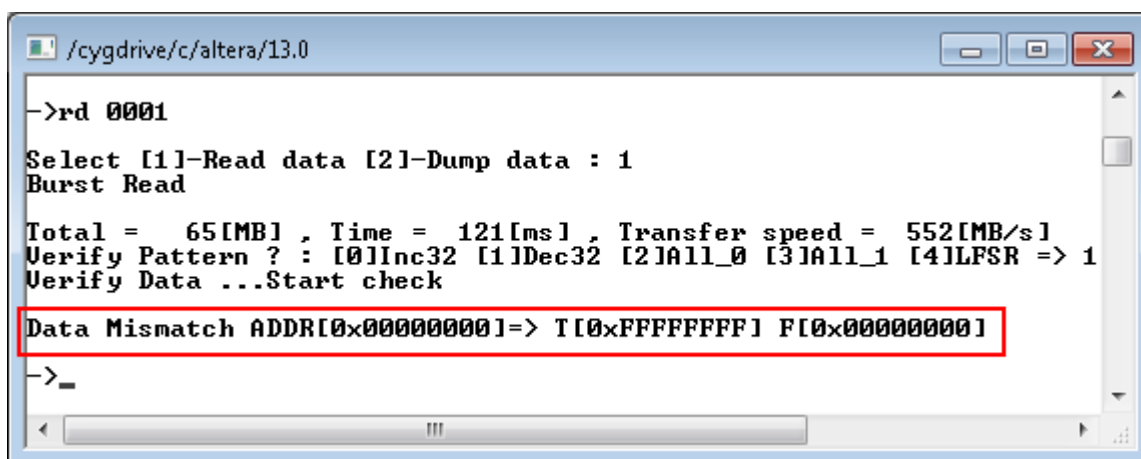

Figure 3-22 Verify Error
- (1) Verify Error when data in file is different from expect pattern during verification, as shown in Figure 3-22.